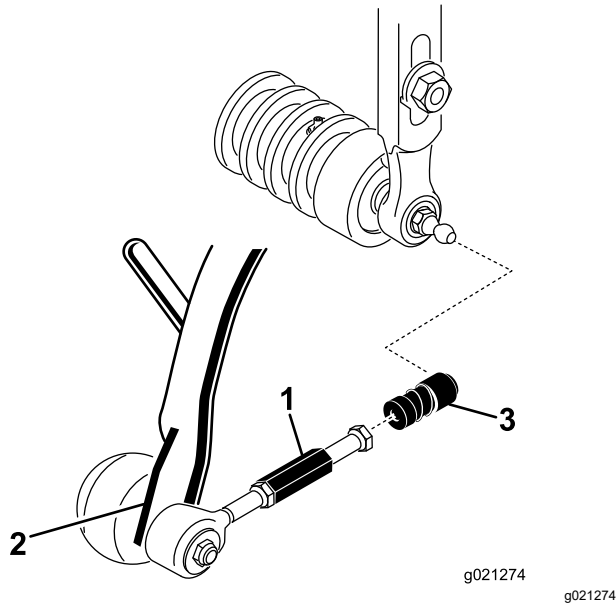

Figure 7
3. Slide the sleeve back on each ball joint receiver and hook the receiver onto the cutting unit ball stud (Figure 7).